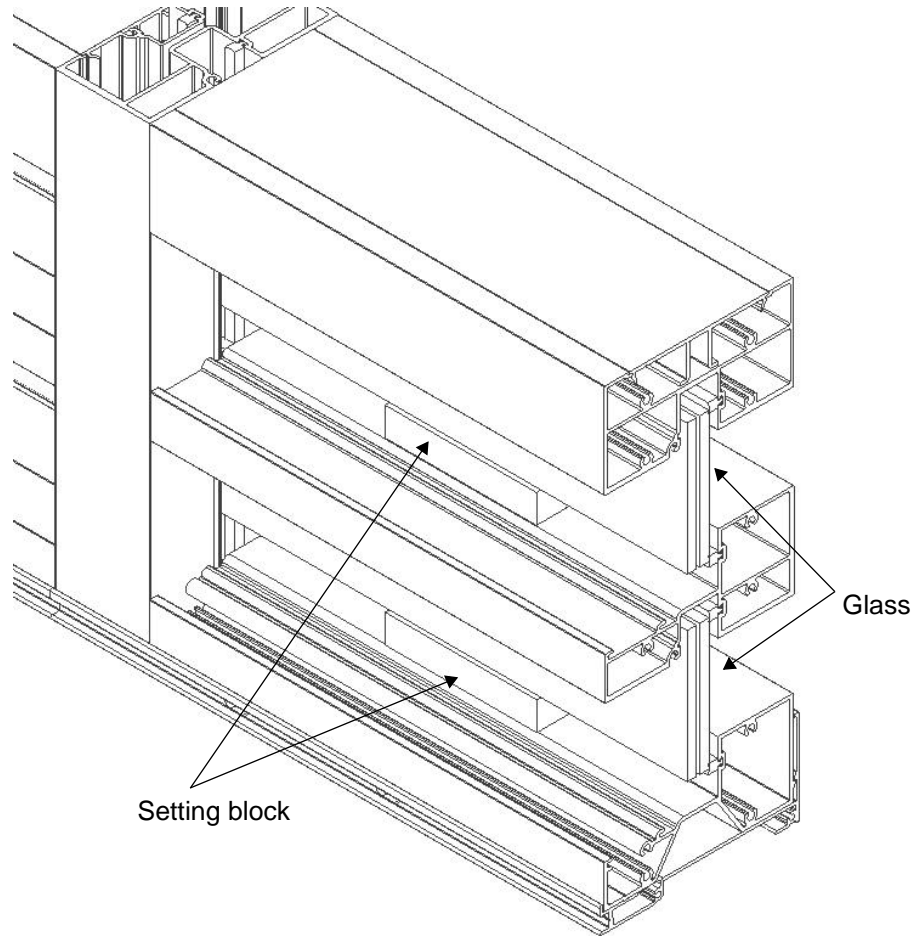

Figure 12: Lower the glass onto the setting block.
- Lower the glass onto the setting block as shown in Figure 12.